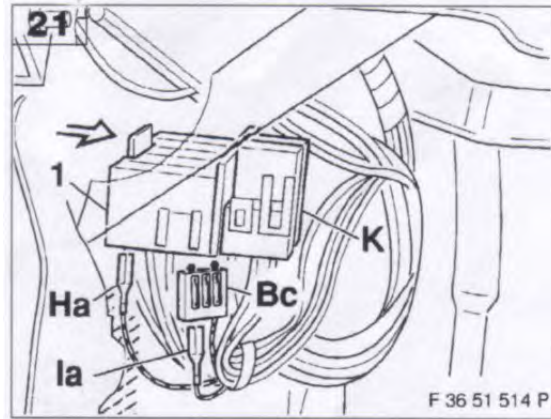

Figure 28 – Connections for Bc, la, K and Ha
- 7.5.1 Connect la into one of the three slots in the Bc connector as shown in **Figure 28**.
7.6.1 Connect or splice Ha into the same color wire (Gray w/Red stripe) in the Fan Connector Box (Figure 28).
7.7.1 Mount relay K to one of the slot locations on the Fan Connector Box (Figure 28).